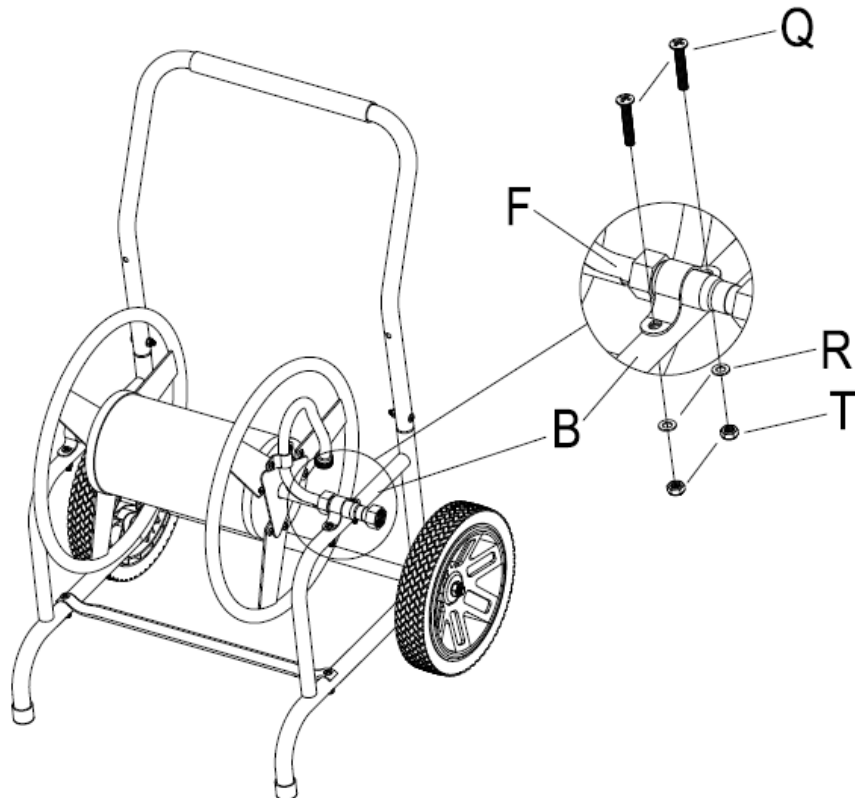

Figure 8
Step 8: Attach the assembled hose drum to the Side Frame (B) using Bolts (Q), Washers (R), and Lock Nuts (T). See Figure 8.